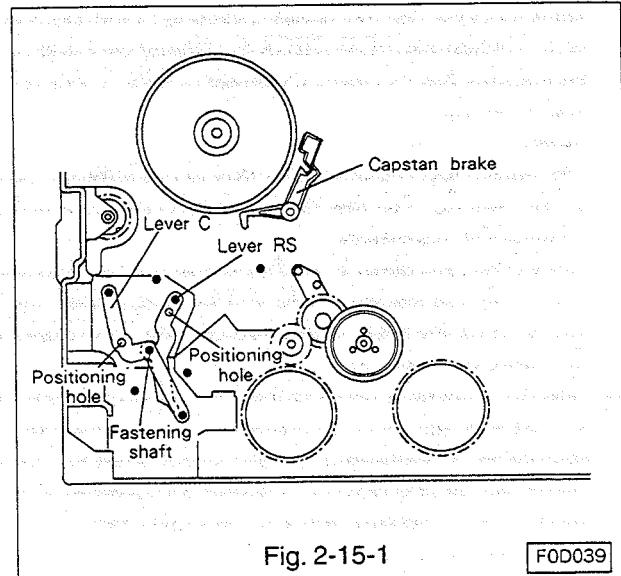

Fig. 2-15-1
## 2-15 Positioning and Installation Sequence of Parts Around Main Cam 1 (Bottom Side of Deck) (Refer to Fig. 2-15-1~2-15-6.)
- A. Line the positioning hole in lever RS to that of the main plate, and assemble lever RS to the shaft.(Refer to Fig. 2-15-1.)